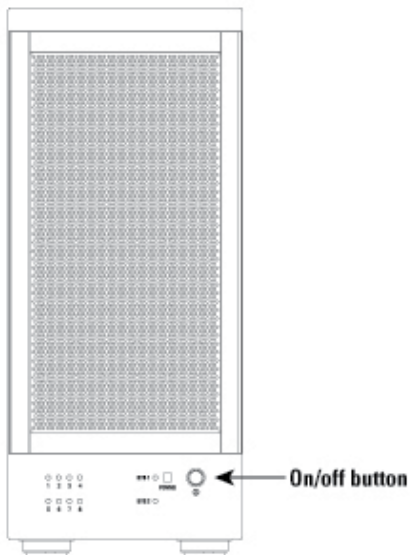

Fig. 13
1. Switch off the device (fig. 13).